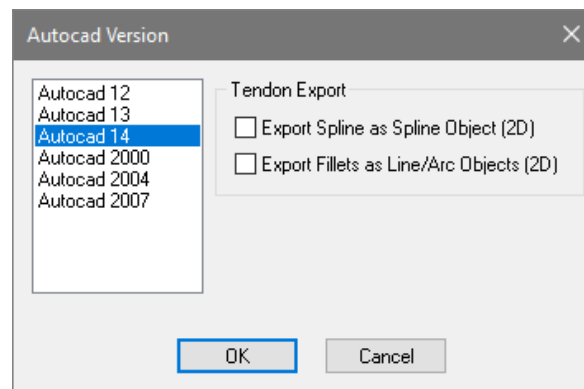

Figure 9-120
- We can now export the tendons to a CAD drawing in order to produce our documentation. Go to *File* → *Export* → *DWG*. This will open the *AutoCAD Version* window where the user can choose the drawing version as well as, whether they want the drawing to export tendons as Polylines or Splines as shown in **FIGURE 9-120**.